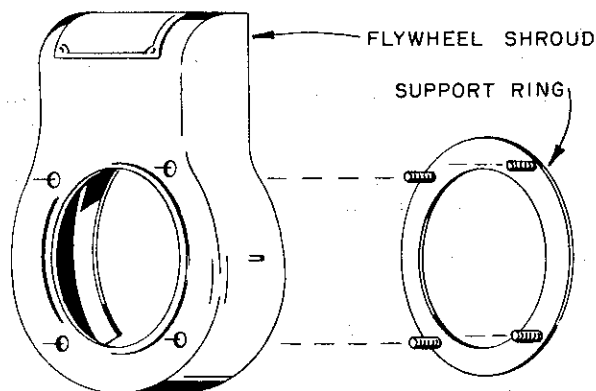

FIG. 5
F. Place support ring inside flywheel shroud with studs extended thru drilled holes, as shown in *Fig. 5*. Reassemble flywheel shroud to engine.